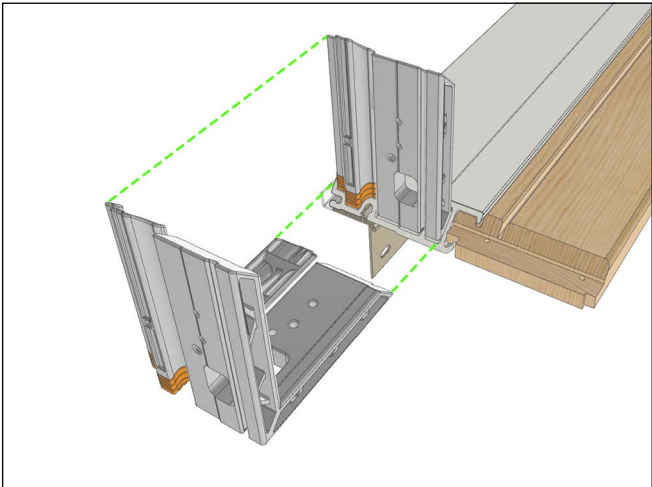

Figure 1
1. Insert corner keys into side jambs. See Figure 1.